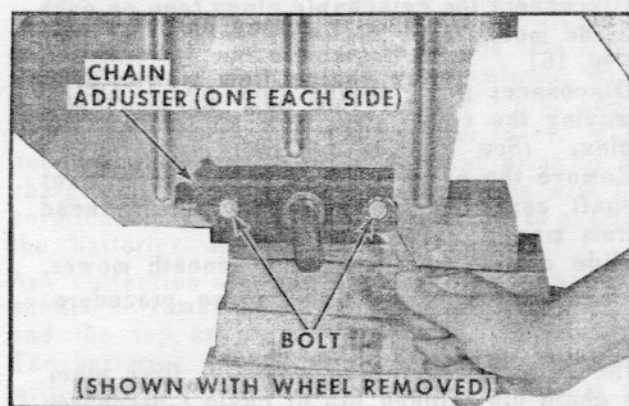

FIG. 21
2. Loosen the bolts on both rear bearing plates (two on each side). (See Fig. 21)